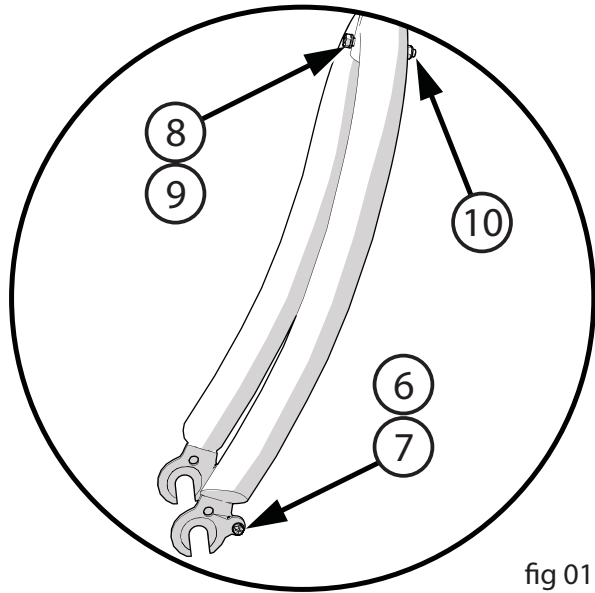

fig 01
1. Front fender attaching hardware has been pre-assembled onto the fork. Remove the Bolt (8) and Washer (9) and Nut (10) from the fork crown.
2. Remove lower mounting Bolts (7) and Washers (6) from the dropout before starting (**fig 01**).